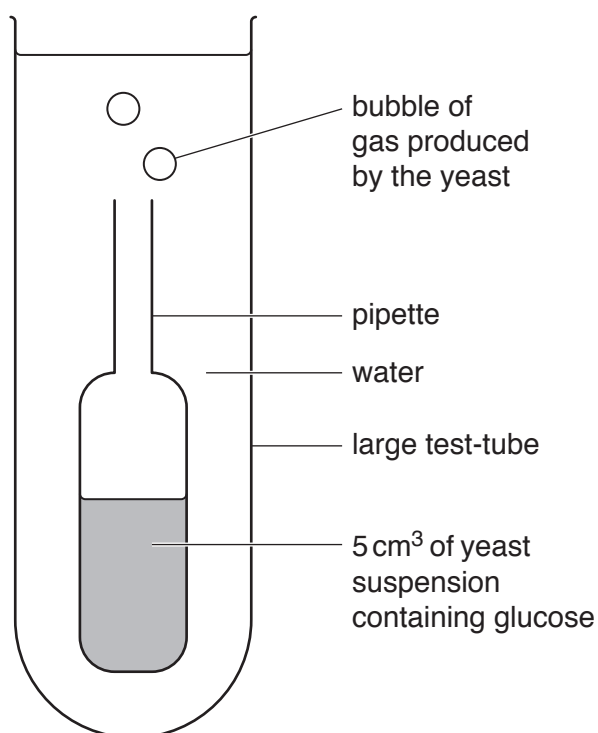

Fig. 1.1
Step 1 The student was provided with a yeast suspension which also contained glucose. Two identical sets of equipment were set up as shown in Fig. 1.1.
- Step 2 One set of the equipment shown in Fig. 1.1 was placed into a **warm** water-bath and the starting temperature of the water-bath was recorded as 50 °C. The other set was placed into a **cool** water-bath which had a starting temperature of 25 °C. The volume of water in each water-bath was the same.